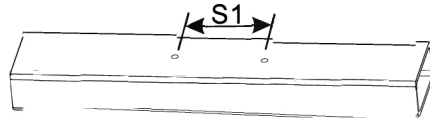

Figure 2
2. Drill two holes of distance S1 on the mounting bar (Figure 2).